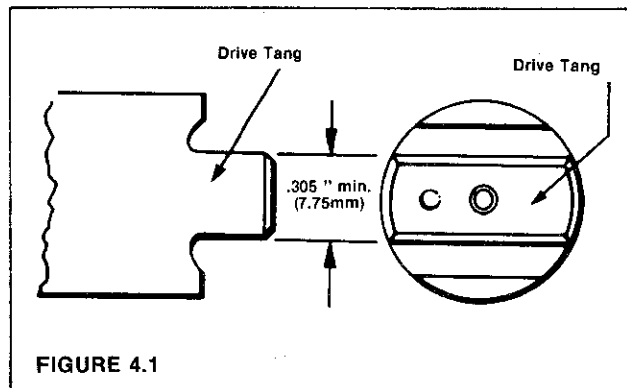

FIGURE 4.1
1. Drive Shaft - Measure the distance across the flats of the drive tang which must not be less than .305" (7.75mm). The shaft diameter in the drive shaft seal area must be free of nicks and scratches for the seals to function properly. Moderate shaft wear from the seal lips is normal (Figure 4.1).